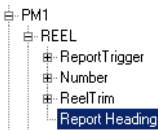

Figure 217. New Report Heading Added
- a. Select **REEL** and choose **Add New Tag** from the context menu. This adds a new Report Heading in the tree under REEL, Figure 217.